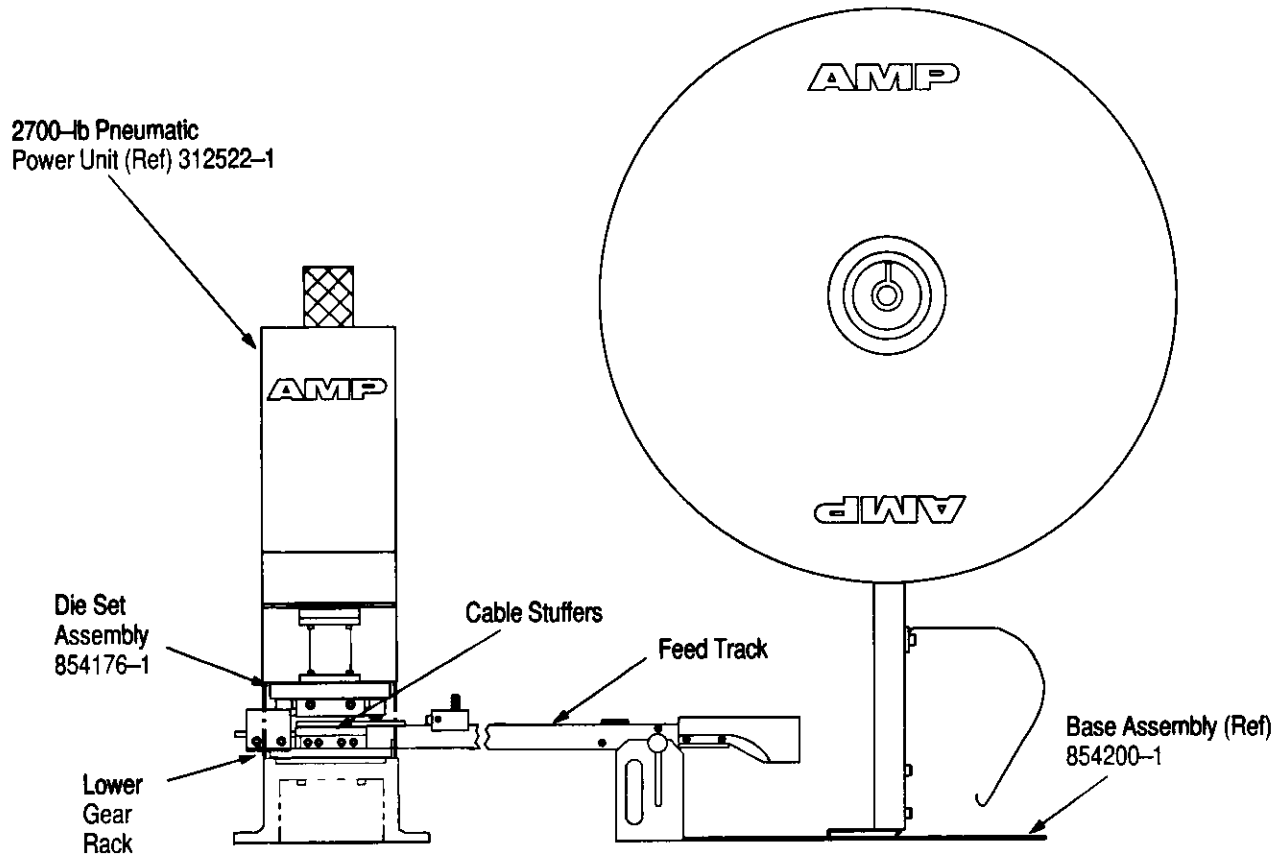

Figure 1
2. DESCRIPTION (Figure 1)
After the die set assembly is installed into the manual applicator or power unit, it serves as a guide and support for the connector during termination. Features of the die set assembly (see Figure 1) and their functions are as follows: